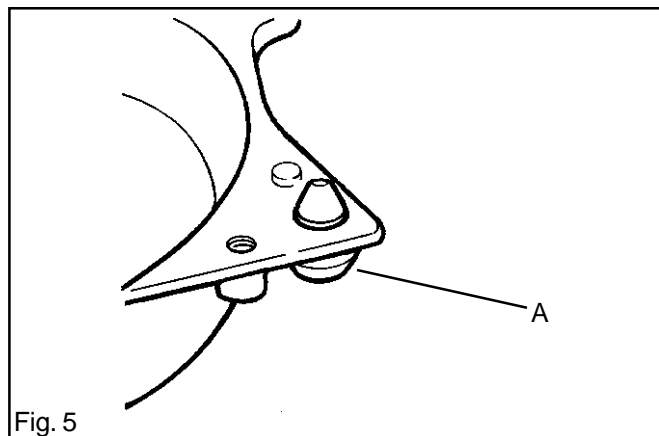

Fig. 5
- B. Rubber stop (A). See fig. 5.
- D. Fit the rubber stop (A). See fig. 5.